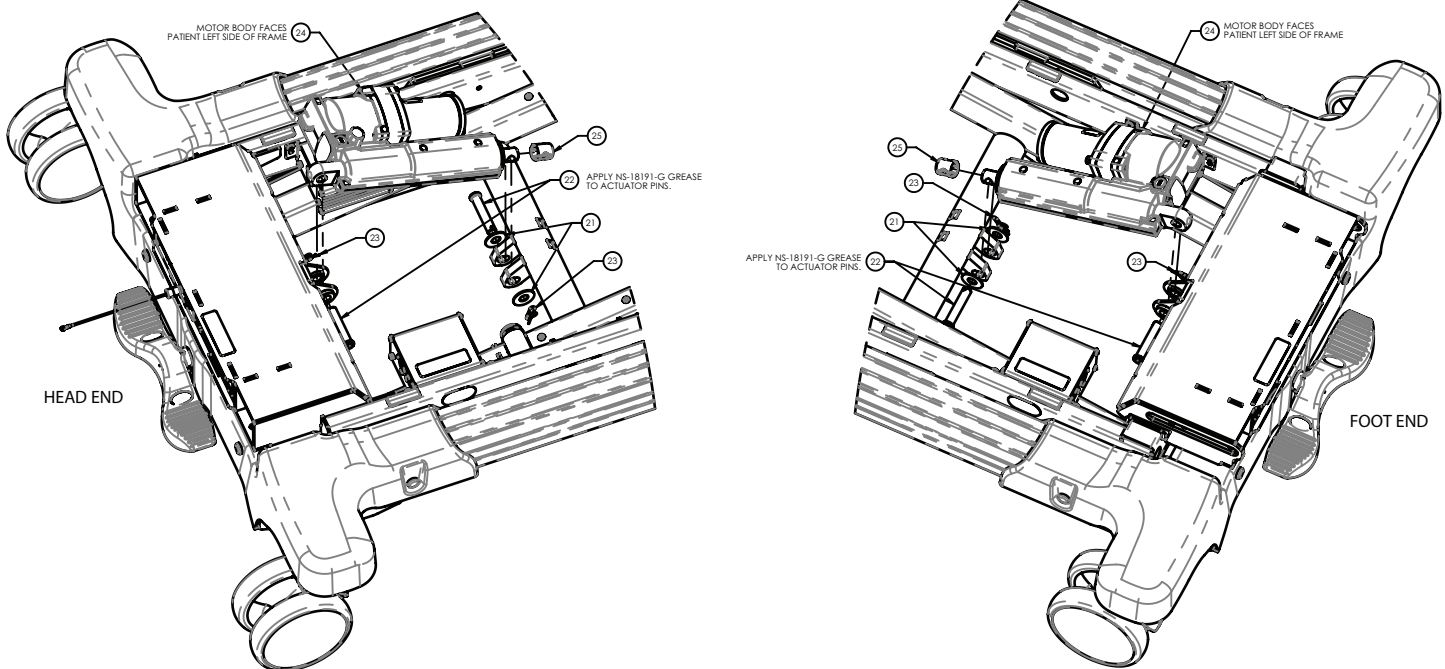

Figure 32 – Lift actuator replacement
10. Using needle nose pliers, remove both ring retaining clips (23) from the clevis pins (22) that attach the actuator (24) to the litter weldment and lift weldment (Figure 32).
11. While supporting the actuator (24) with one hand, remove the head end clevis pin (22) and foot end clevis pin (22) and then lower the actuator down (Figure 32).